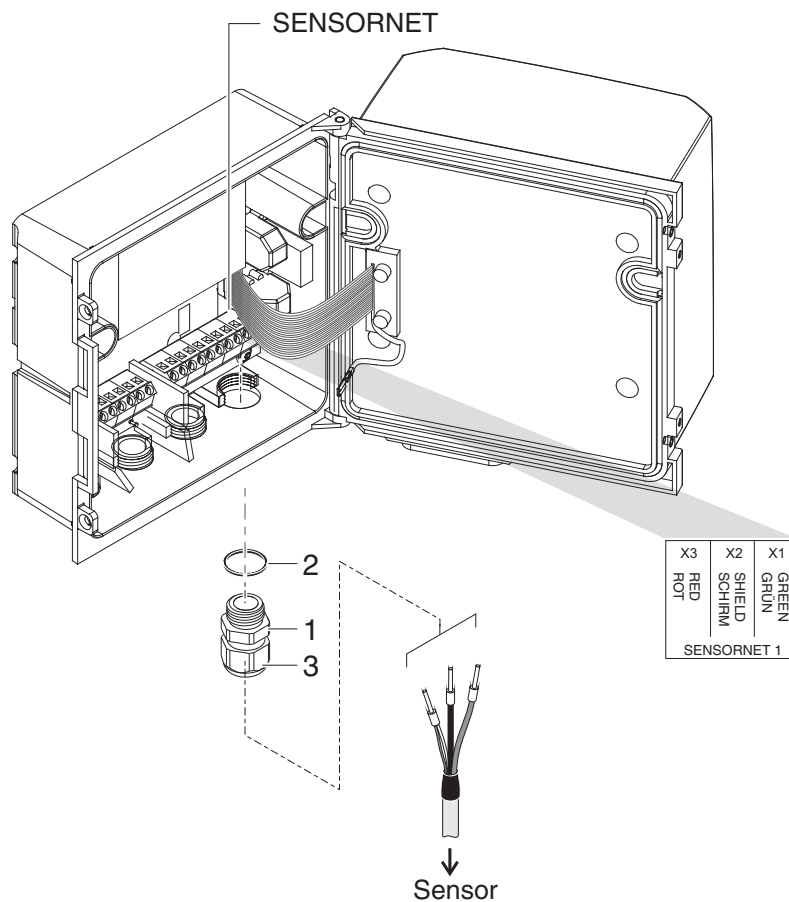

figure 3-14 Connecting the cable (example DIQ/S 281CR2)
- 2 Screw the cable gland (pos. 1 in figure 3-14) with the sealing (pos. 2) into the housing at the mounting position for the SENSORNET connection (see label on the bottom of the housing)
- 3 Loosen the cap nut (pos. 3 in figure 3-14).
- 6 Tighten the cap nut (pos. 3 in figure 3-14).